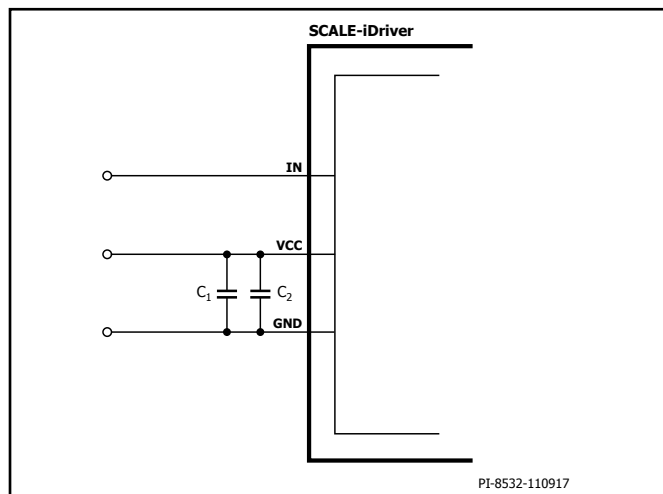
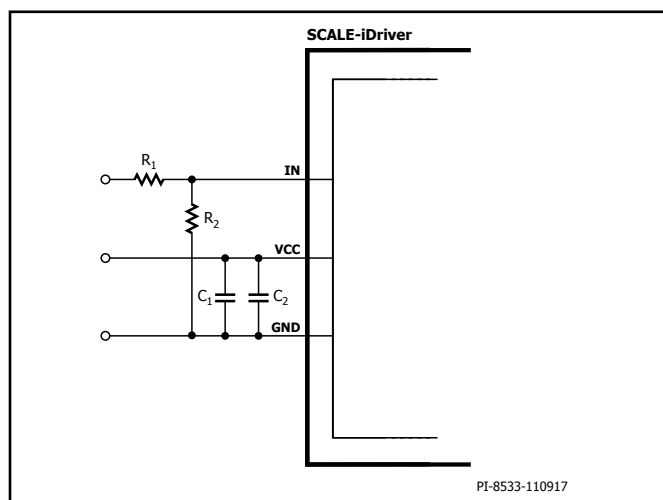
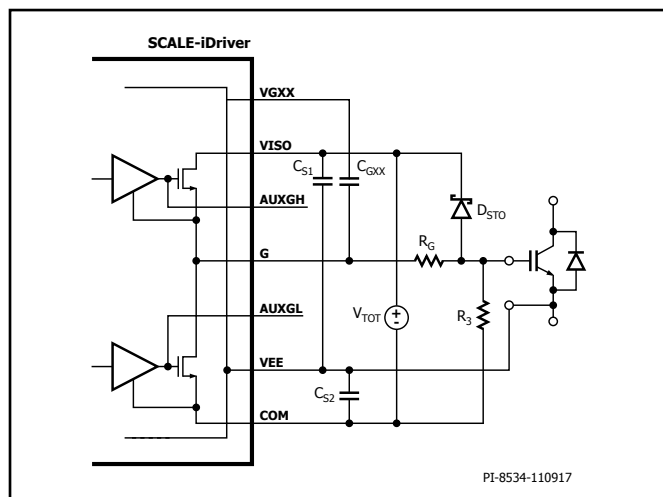
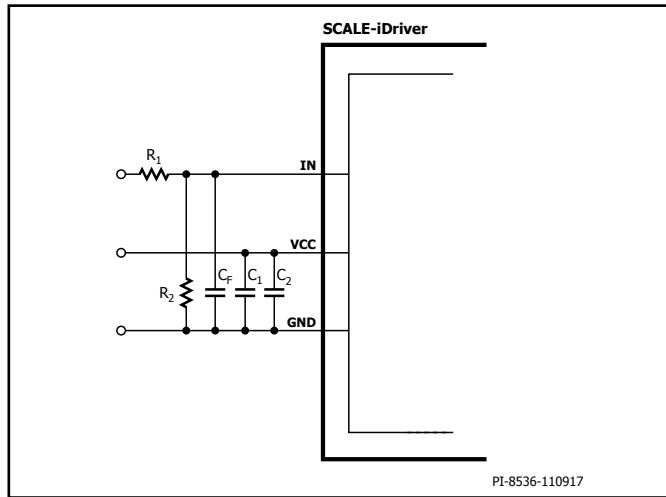

Figure 5. Recommended Circuitry for Standard 5 V IN Logic Level.
Figure 6. Recommended Circuitry for Increased IN Logic Levels. For  $R_1 = 3.3 \text{ k}\Omega$  and  $R_2 = 1 \text{ k}\Omega$  the IN Logic Level is 15 V.
Figure 7. SID1102K without External Booster Stage.
Figure 8. Optional Input Signal Filtering.
The input (IN) logic is designed to work directly with micro-controllers using 5 V CMOS logic. If the physical distance between the controller and the SCALE-iDriver is large or if a different logic level is required, the resistive divider in Figure 6 is recommended. This solution adjusts the logic level as necessary and will also improve the driver's noise immunity.
The gate of the power semiconductor switch should be connected to the SCALE-iDriver output via pin G, using suitable gate resistor  $R_G$  as shown in Figure 7.
It is recommended during power-up and power-down that the IN pin stays at logic low. Any supply voltage related to VCC, VISO, VEE and VGXX pins should be stabilized using ceramic capacitors  $C_1$ ,  $C_2$ ,  $C_{S1}$ ,  $C_{S2}$  and  $C_{GXX}$  respectively as shown in Figure 5 and Figure 7. After supply voltages reach their nominal values, the driver will begin to function after a time delay  $t_{START}$ .
Figure 5 and Figure 7 show the primary-side and secondary-side schematic and typical components used for SID1102K design without a booster stage, in which the primary-side supply voltage ( $V_{VCC}$ ) will be connected between VCC and GND pins and supported through supply bypass ceramic capacitors  $C_1$  (4.7  $\mu$ F typically) and  $C_2$  (470 nF typically). If the command signal voltage level is higher than the rated IN pin voltage, a resistive voltage divider should be used (Figure 6). Additional capacitor  $C_F$  can be used to provide input signal filtering as shown in Figure 8. The filter time  $\tau$  can be calculated according to equation (1):
To avoid parasitic power-switch-conduction during system power-on the gate is connected to COM through 22 k $\Omega$  resistor  $R_3$  as shown in Figure 7.
The primary-side can be setup identical as described in the previous section referring to Figure 5 or Figure 6 or Figure 8.